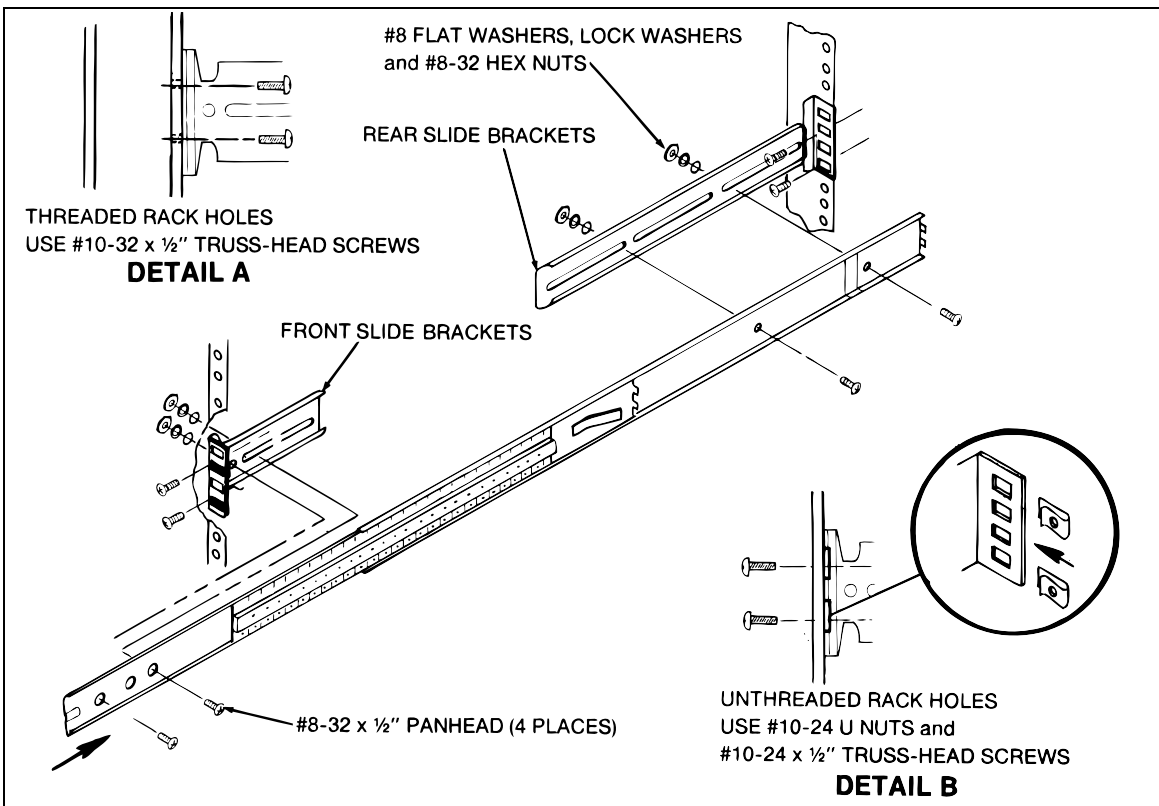
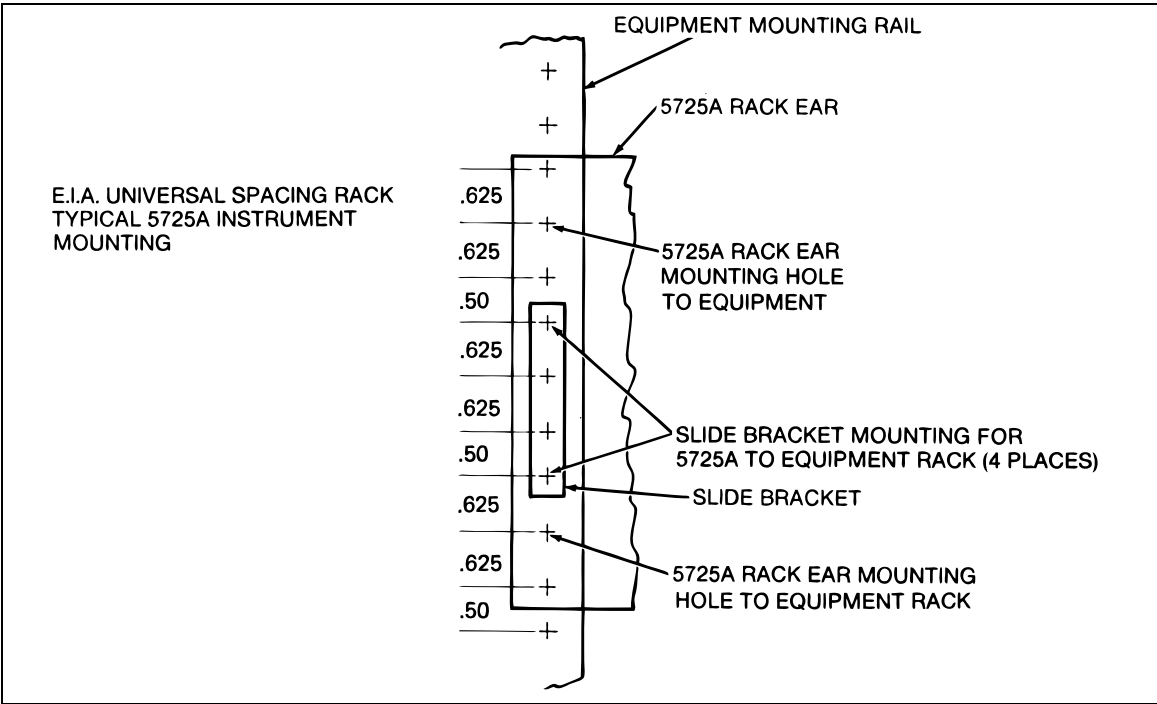

Figure 2. Installing Rack Slides
Figure 3. Typical 5725A Mounting Locations
4. Install the front slide brackets (shorter pair) to the equipment rack mounting rails as Figure 2 shows. (Refer to Figure 3 and 4 for typical mounting holes spacing.) If your rack has threaded mounting rails, use two #10-32 x 1/2" truss-head screws as shown in Figure 2, Detail A. If your rack has unthreaded mounting holes, use two #10-24 x 1/2" truss-head screws and two #10-24 U-nuts as shown in Figure 2, Detail B.
6. Attach the slides to the front brackets using two #8-32 x 1/2" pan-head screws, two #8 flat washers, two #8 lock washers, and two #8 hex nuts as Figure 2 shows. Align the slides to the rear brackets the same way as the front, except fully extend the slides to access the screw heads.